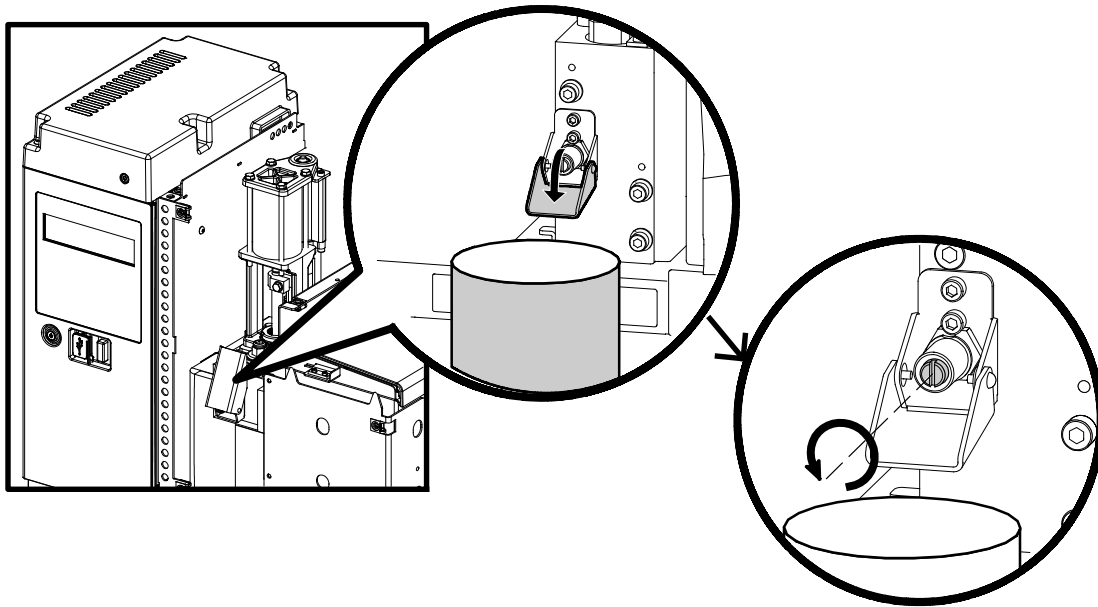

Figure 4-2 Location of the drain chute and the drain valve
4. See Figure 4-2. Lower the drain valve chute and open the drain valve.